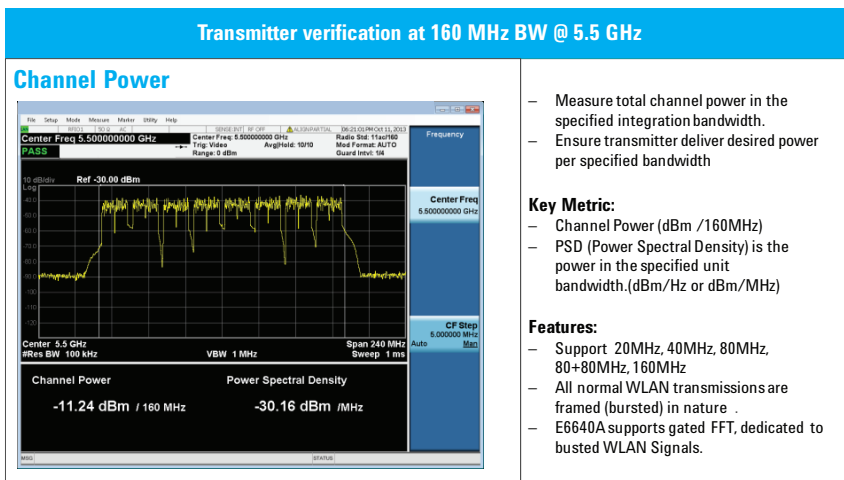

FIGURE 8. A channel power measurement using the EXM.
Figure 8 illustrates some key 802.11ac transmitter measurements on a 160 MHz channel and 80+80 MHz channels. The EXM covers all higher-order modulation tests using its 160 MHz maximum capture and demodulation bandwidth. Channel power and modulation accuracy (EVM) measurements are required to be measured in up to a 160 MHz bandwidth. The 160 MHz capture bandwidth also enables rapid spectral mask testing